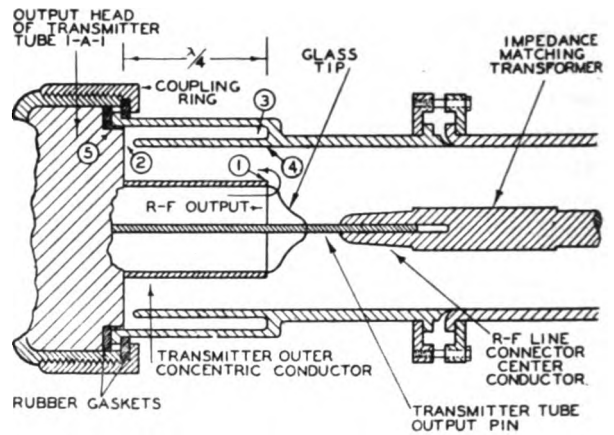

Figure 56. Cross-sectional view of transmitter tube coupling.
*a. TRANSMITTER COUPLING.* A cross-sectional view of the transmitter coupling is shown in figure 56. The center conductor of the output head of the transmitter tube, a  $\frac{1}{8}$ -inch tungsten rod approximately 1 inch long, is directly connected to the center conductor of the r-f transmission line. The output head of the transmitter tube is provided with a threaded fitting over which the coupling ring of the coupler is screwed down to make the connection. The outer concentric conductor of the transmitter is connected to the outer conductor by a half-wavelength section of transmission line. A half-wavelength section of line which is shorted at one end presents a very low impedance to r-f energy applied to the other end of the line. Therefore the half-wavelength section of line from ① to ② to ③ presents a low impedance to the r-f energy leaving the outer concentric conductor of the transmitter tube at ①. Thus there is the equivalent of a short circuit between ① and ④. This type of coupling is used instead of a direct connection for two reasons. The use of the coupler minimizes the effect of variations of contact resistance between the coupler and the transmitter tube at ⑤. Since the shorted section of line from ② to ③ appears as an open circuit at ② any additional resistance in series with the open circuit at ② has no effect on the impedance at ①. The second reason for the use of this type of coupling is to prevent the r-f energy from leaking out to the outside of the transmitter tube. There are standing waves of voltage on the line between ① and ② and ③. Since the r-f voltage at ① is high with respect to ground; a quarter-wavelength away at ⑤, the r-f voltage is very near ground potential. The voltage at ⑤ with
**b. MATCHING OF TRANSMITTER TUBE TO R-F LINE DURING TRANSMISSION.** That part of the inner conductor designated as the transformer in figure 56 is used to match the impedance of the r-f line as seen from the transmitter tube to the output impedance of the tube. This is done to make certain that there is the most efficient transfer of energy between the tube and the line. This section is one-quarter wavelength long. Because of its increased diameter, its impedance is lower than that of the r-f line. The quarter-wavelength transformer, in conjunction with the matching stub at the tee-junction, transforms the impedance of the r-f line to a value which is a proper matching impedance for the magnetron. The effect